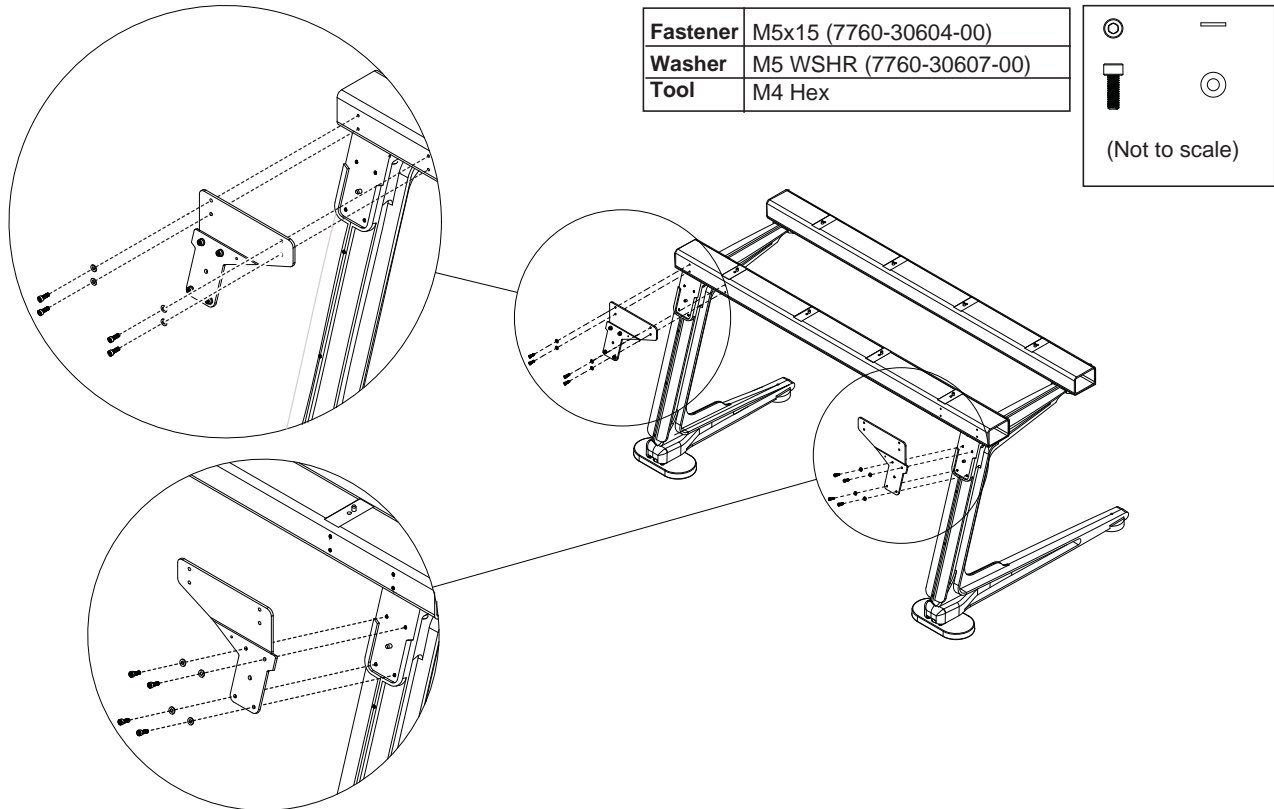

Figure 6. Attaching the Back Corner Brackets (bracket to Beam shown at upper left; bracket to Leg shown at lower left)
- 1 Attach the Back Corner Brackets to the back Beam first, using four fasteners and washers per bracket as shown in Figure 6. Do not tighten the fasteners fully.
- 2 Attach the Back Corner Brackets to the Legs as shown in Figure 6 using four more fasteners and washers (included) per bracket. Align the pins on the brackets with the holes at the top of the Legs. Do not tighten the fasteners fully.